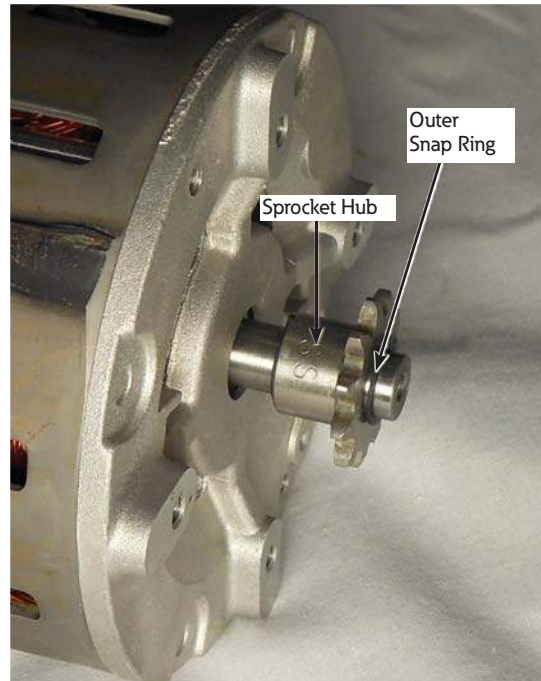

Figure 10. Placement of the sprocket
10. Align the sprocket keyway with the Woodruff key on the motor shaft. Slide the sprocket onto the motor shaft with the sprocket hub end towards the motor. Install the second snap ring into the outer snap ring groove using a snap ring pliers. Refer to Figure 10.